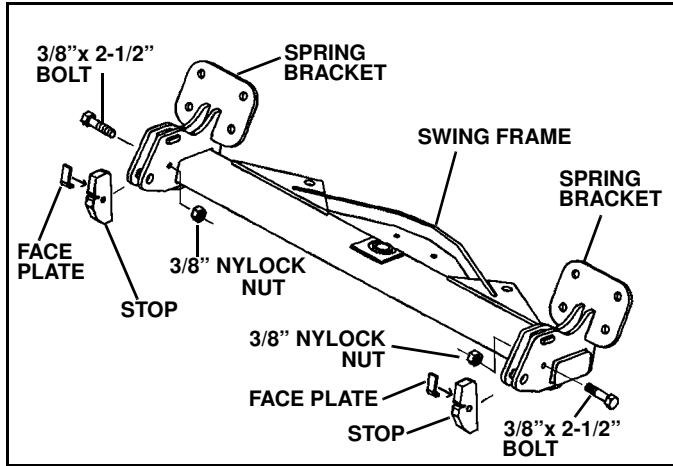

Figure 1-5
2. Slide the metal face plates into the slot in the blade stops from the side. Place the stops between the lugs on the swing frame. Secure with 3/8" x 2-1/2" bolts and locking nuts. (See Figure 1-5) Bolts and nuts are in the blade parts bag.